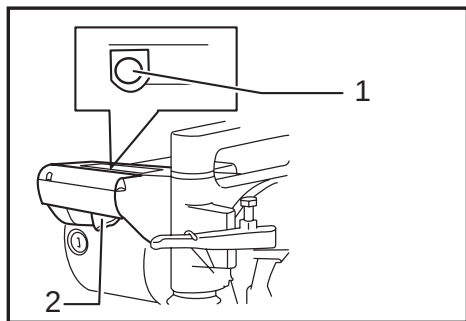

Fig.2
► **Fig.2:** 1. Lock-off button 2. Switch trigger